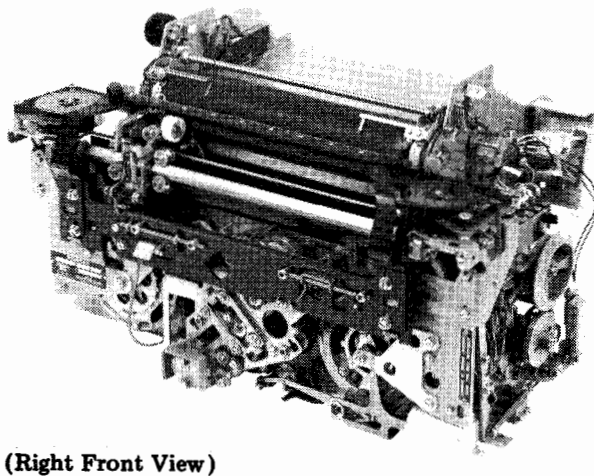

Figure 4 - 37 Typing Unit
2.06 Unpack the typing unit (Figure 4) from its carton and remove all packing material. The typing unit may be lifted by grasping the right side of the front plate and the rear curve under the left side plate. Do not lift any other way. Place the typing unit on its front plate on a flat surface allowing the shipping pallet to hang over the edge. Remove the shipping pallet from the typing unit. Remove the four shipping fasteners clipped to the feet of the typing unit. Remove the wire retainers that secure the print hammer assembly and the retraction reset slide, if